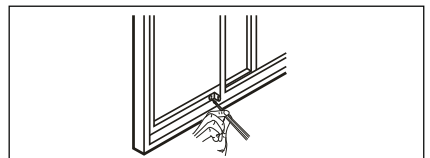

Fig. 22
- To secure the sliding sash in place, attach right angle sash lock with 1/2" (12.7mm) screw as shown (Fig.22).